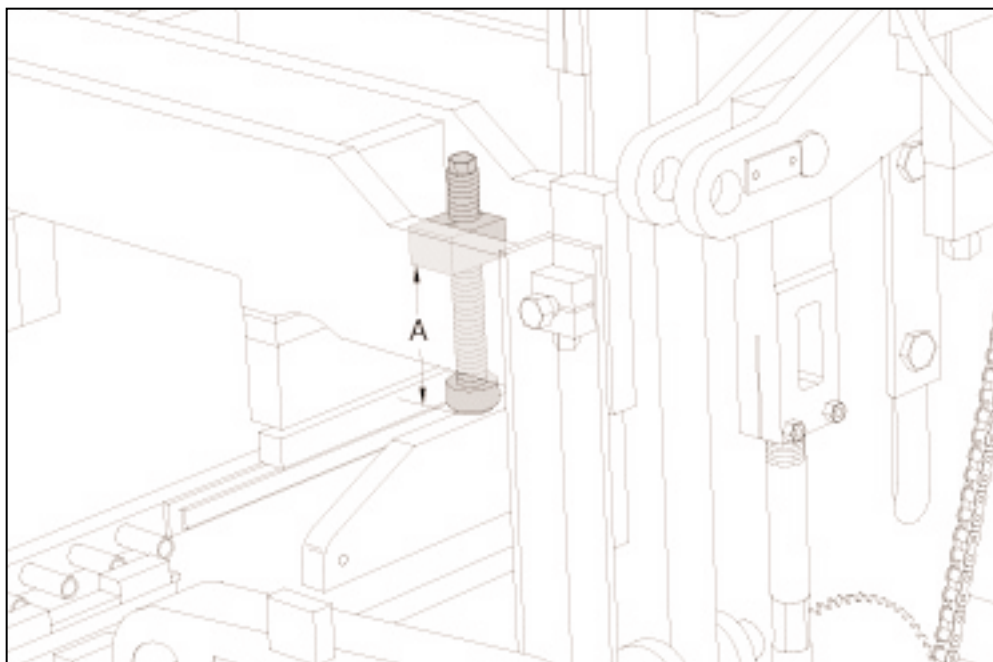

Figure 18.52 SHOCK ABSORBERS ADJUSTMENT.
18.3.10 Install the **445mm [17.5"]** shock absorbers **#395992**. Adjust the shock absorbers to a dimension **294mm [11.563"]** (represented by "A" in figure 18.52) from the bottom of the welded clamp blocks to the bottom of the rubber pads.